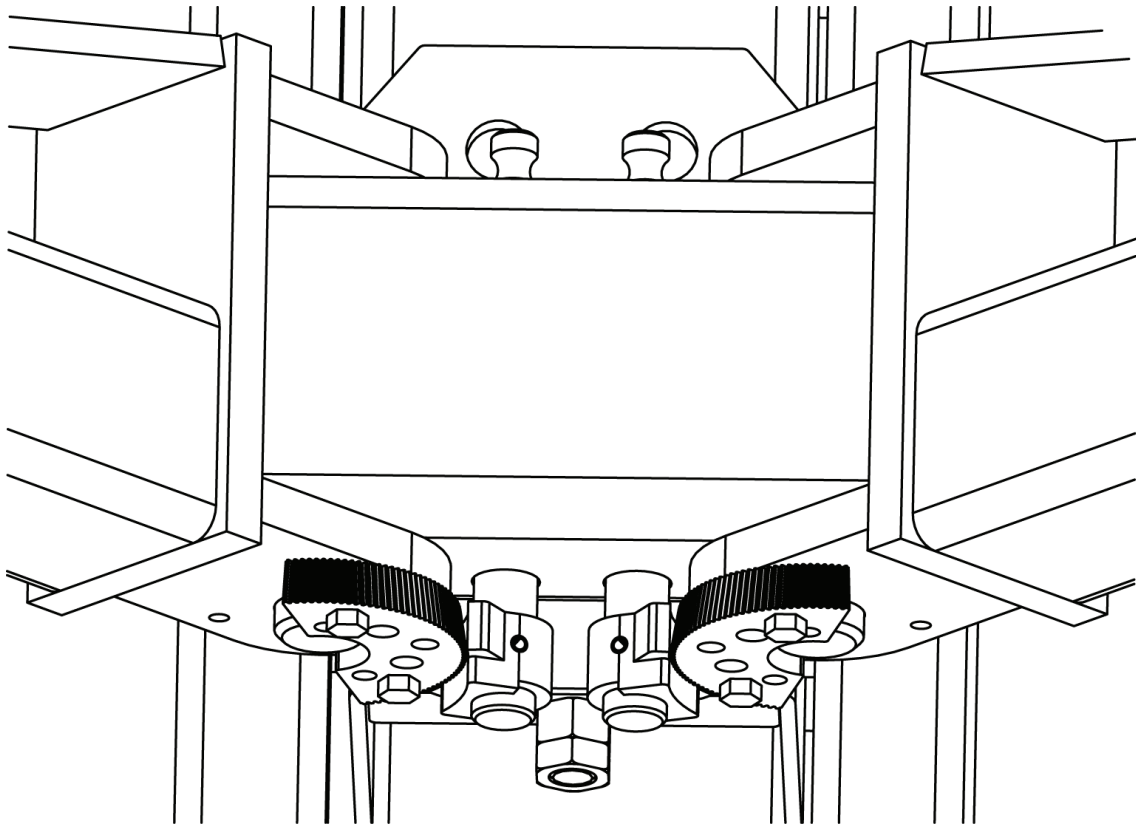

Figure 16
B. Position the gears with word TOP against the bottom of the arms in the orientation shown in Figure 16. Attach the gears to the arms with (2) 3/8-16NC X 1-1/2 long HHCS. Do not tighten at this time.